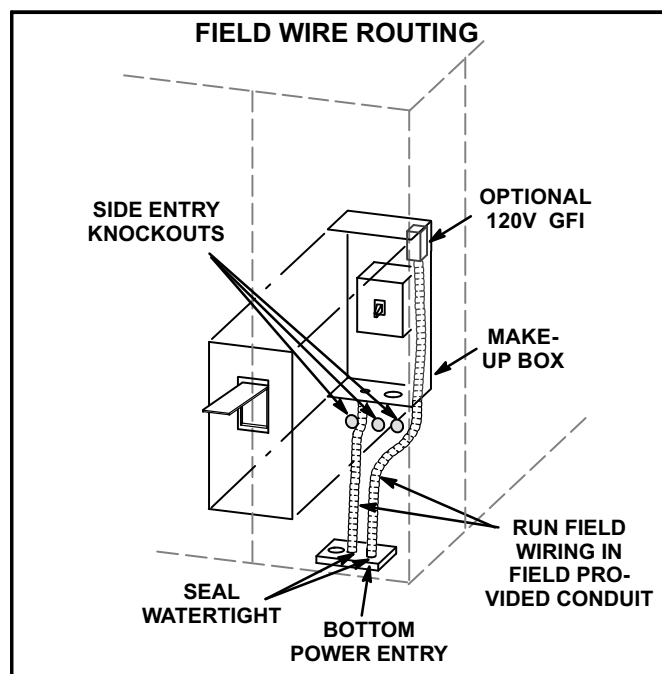

FIGURE 11
Route field wiring in conduit between bottom power entry disconnect. See figure 11. This does not supersede local codes or authorities having jurisdiction.
- 3- *Units With Optional 120v GFCI Outlet -* Route and connect separate 120v wiring to GFCI outlets which do not have factory-installed wiring. Route field wiring in conduit between bottom power entry and GFCI. See figure 11.